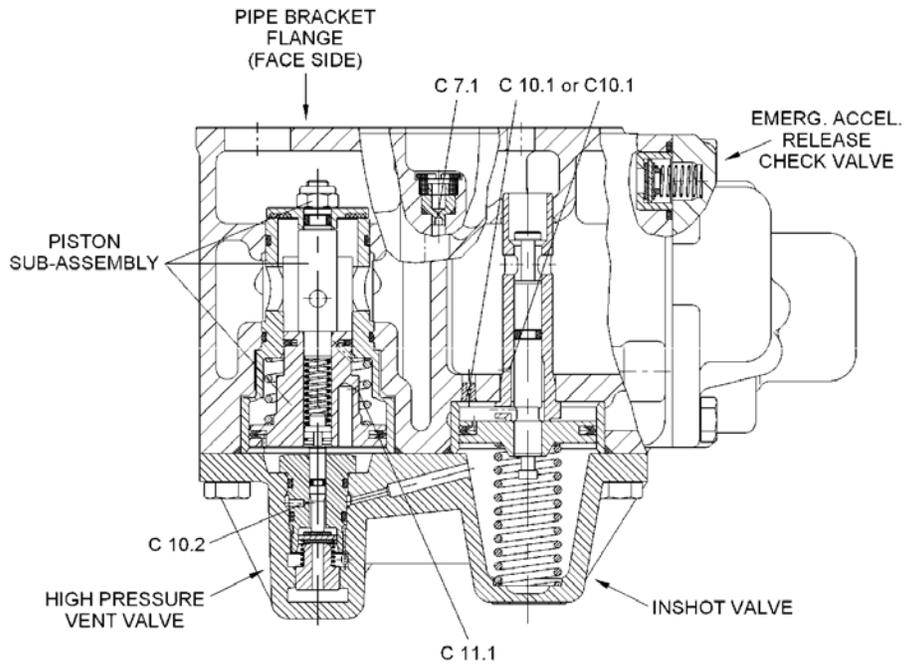

Figure 6-3 DB20 and DB20L Emergency Portion (Assembly View)
4. Rotate housing (29) so that vent flap surface is face down. Remove piston subassembly (8, 20, 52-66) by carefully pushing on lock nut (66) through the corresponding hole in the pipe bracket flange (face side) of housing (29) using a punch or a screwdriver. (See Figure 6-3 for hole proximity).
- If piston subassembly (8, 20, 52-66) contains one bushing (64), proceed to step 5f.